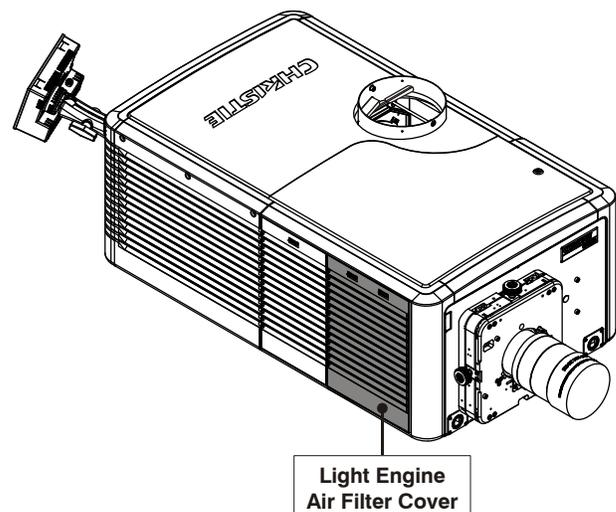

Figure 5-12 Light Engine Air Filter Cover
2. Remove the light engine air filter cover (including filter) **(Figure 5-12)**.
3. Slide the air filter out from behind the air filter cover and discard (**Figure 5-12**).